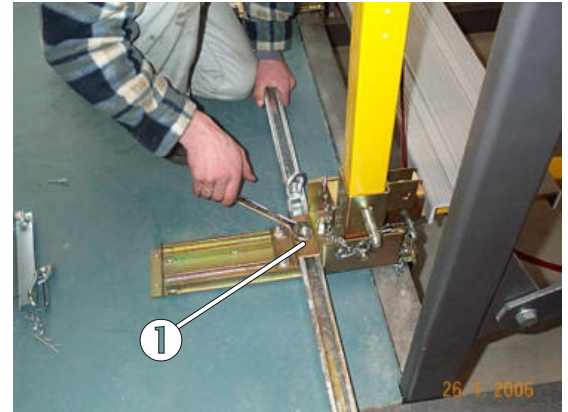

Fig. 19: Attaching the T-head bolts
Only then is the cross beam attached to both the left-hand and right-hand threshold brackets using two T-head bolts on each side. After being attached to the C profile, the bolts must be tightly fixed into place by turning them 90° (fig. 19/pos. 1). The notching at the end of the bolts must lie horizontal to the C profile. This step must be carried out for both threshold brackets.